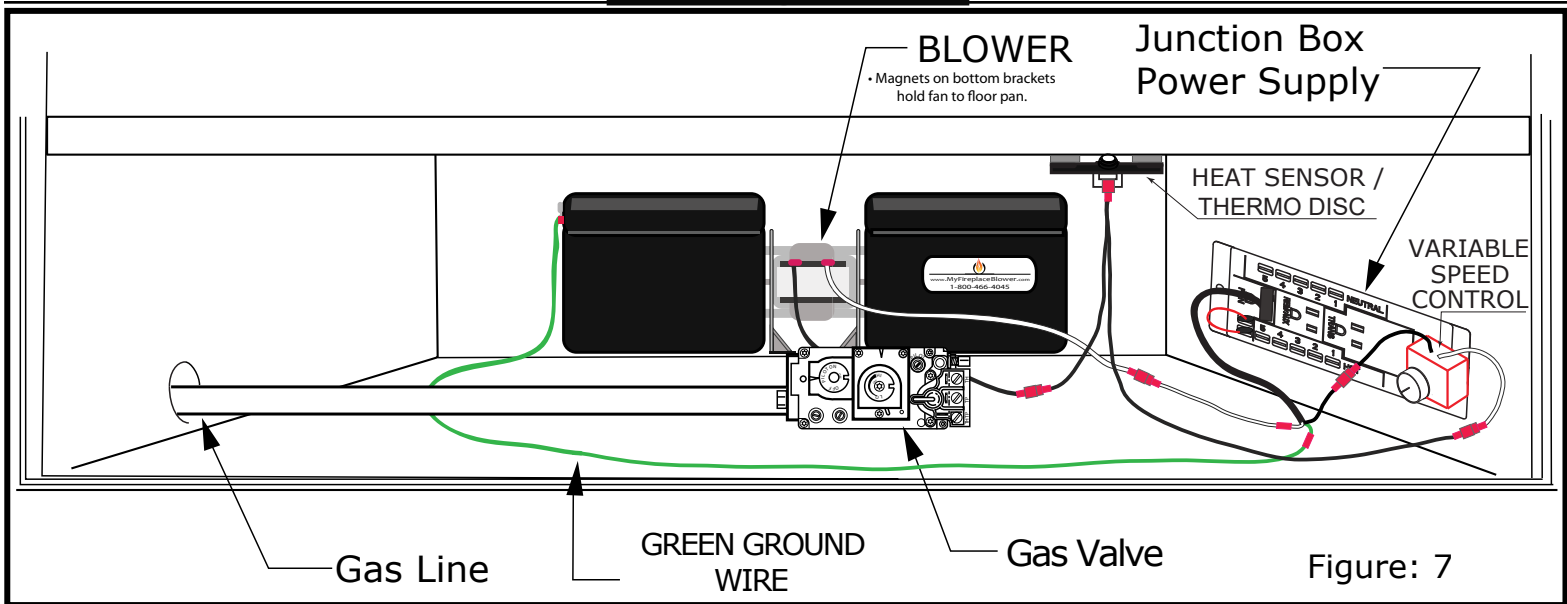

Figure: 7
- Typically, there is space on the Right side of Gas Valve to insert Blower, you may need to move objects out of the way during installation (Figure: 7).
(Figure: 7) Above illustrates blower position in the rear of lower vent space and where the wires are correctly connected.
Step 3: Typically, there is screw stud right of center on the underside of the firebox or on the lower right side of the firebox, place the Thermodisc next to screw stud on underside of firebox or on Side Wall. (Figures: 7,8,9 & 10)
Step 4: The Variable Speed Control may be mounted on the right side of the lower vent space or in center on front of the control panel (Figures: 7, 10 & 11).